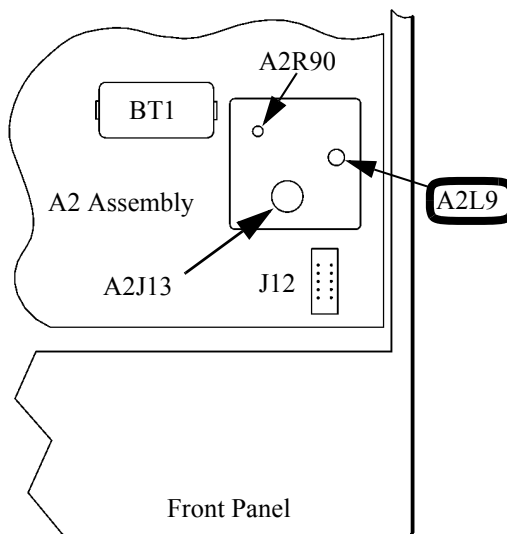

Figure 3-2: A2L9 Adjustment Location
6. Adjust A2L9 to obtain a 50.0 ± 0.5 MHz indication on the frequency counter. Refer to Figure 3-2 for the position of A2L9.